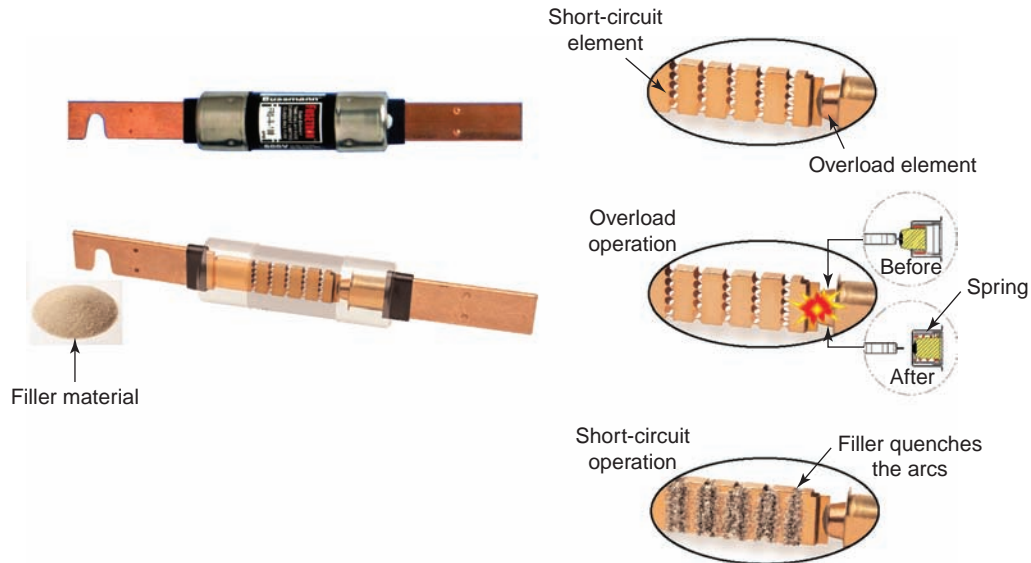

Figure 6-42 Dual-element fuse.
the fuse. Figure 6-42 shows the construction of a dual-element fuse. The operation of a dual-element fuse can be summarized as follows:
- Under sustained overload conditions, the trigger spring fractures the calibrated fusing alloy of the overload element, releasing the connector. The insets in Figure 6-42 represent a model of the overload element before and after.